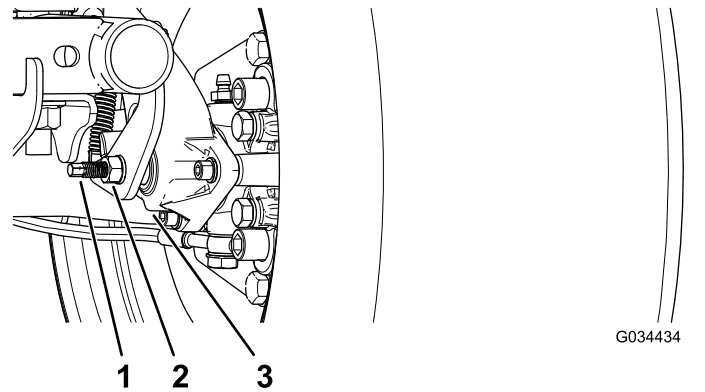

Figure 52
3. Using 2 wrenches, hold the adjusting post on the caliper in place with 1 wrench, and loosen the jam nut 1/4 turn with the other wrench (Figure 52).
4. While holding the adjusting post and the jam nut in place, turn the adjusting post in to tighten (Figure 52).
5. While holding the adjusting post and the jam nut in place, back off 1/4 turn (Figure 52).
6. While holding the adjusting post and the jam nut in place, tighten the jam nut (Figure 52).